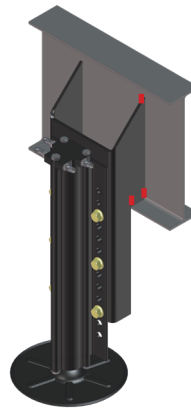

Fig. 9
10. Tack weld the top and bottom corners of each side of the mounting flange (Fig.9).